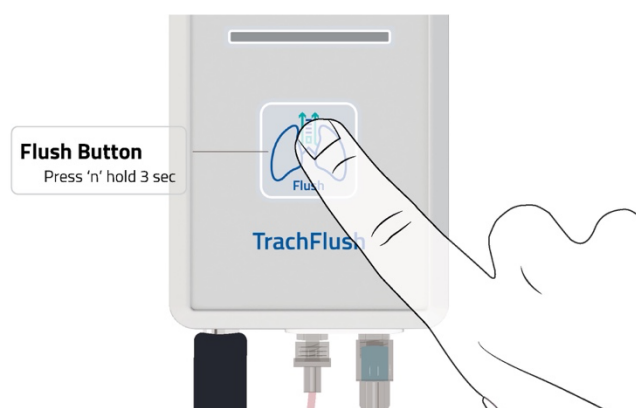

Figure 21: Activate a Spont Flush Control maneuver
**Step 1:** Press and hold the Flush button for 3 seconds to enter the Spont Flush Control menu as shown in Figure 21 below